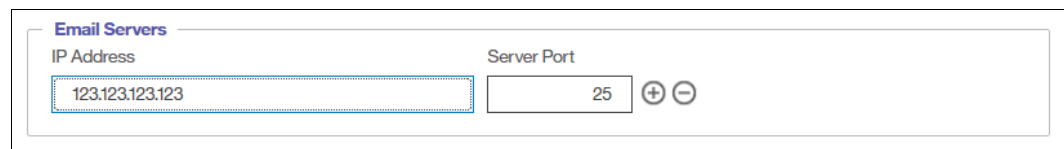

Figure 12-64 Email Servers
2. Configure the SMTP servers. You can add several servers by clicking the plus (+) sign, as shown in Figure 12-64.